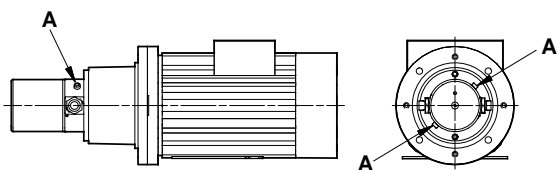

Fig. 4 Vent plugs
1. **Venting:** Before starting the pump, slacken the vent plugs "A", see fig. 4. When the water starts running out of the holes, the pump has been filled with water. Retighten the plugs.